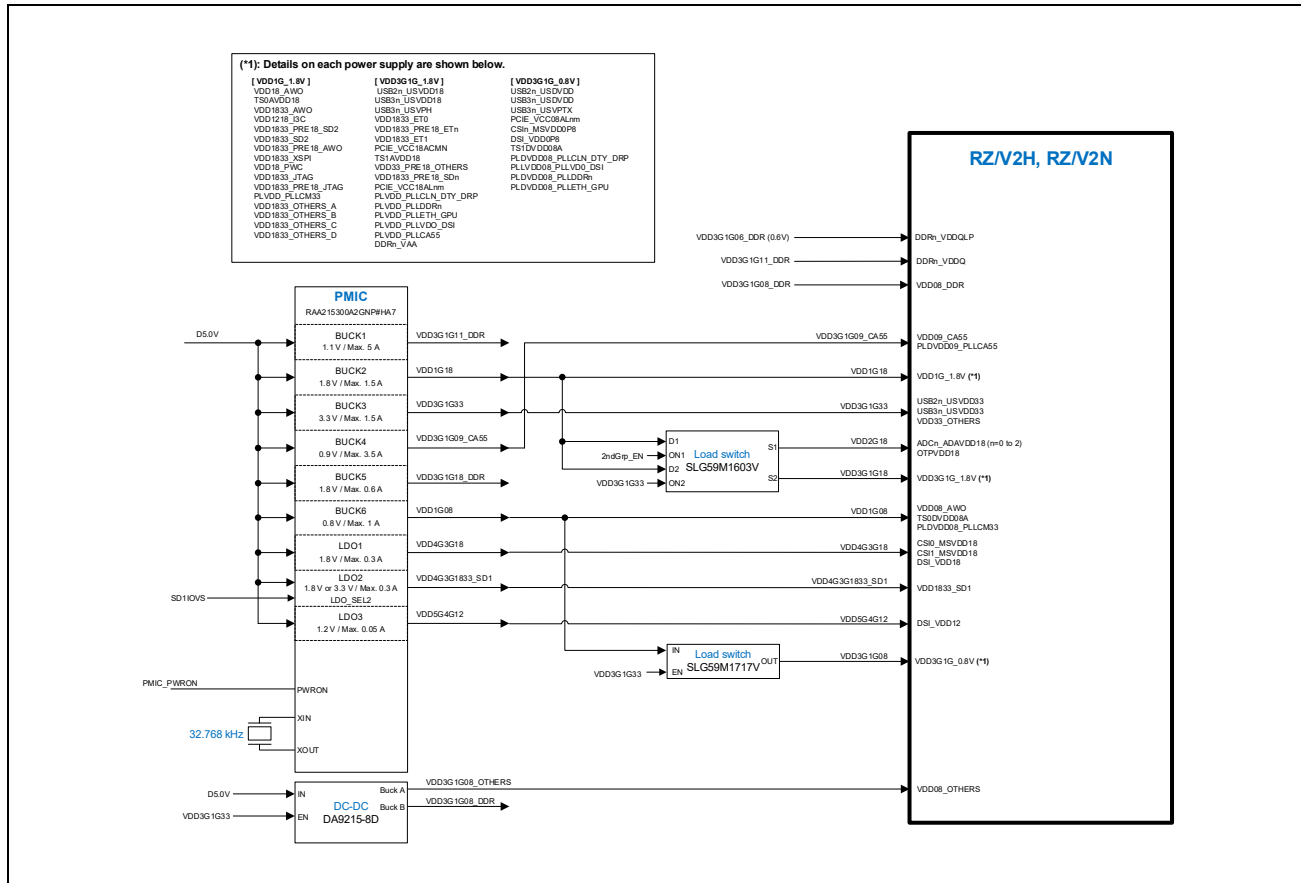

Figure 3.1 Example of a Power Tree
- For RZ/V2H and RZ/V2N, the use of PMICs (RAA215300A2GNP#HA7 and DA9215-8D) is recommended as shown in **Figure 3.1**. However, when using CM33 boot on the RZ/V2H, please use the RAA215300A2GNP#HA2 as shown in the **Figure 3.2**, since the software package does not support PMIC control for RAA215300A2GNP#HA7.